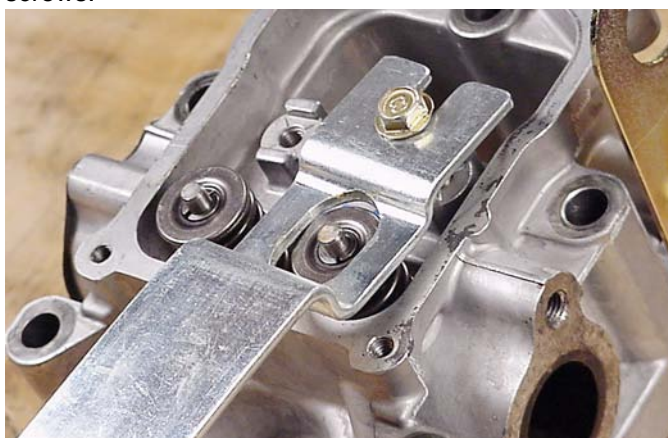

Fig. 92
6. Compress valve spring with Tool #19347 and install split retainers, Fig. 92.